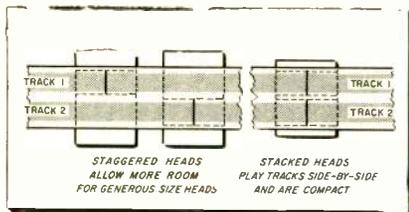
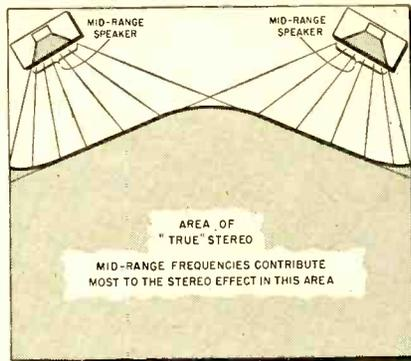

Fig. 1—Staggered and stacked heads as used in tape recorders. Some machines have both.
Fig. 2—Separate speaker systems are more desirable particularly for larger listening areas.
The signal A+B is fine for monophonic listening, even A-B may convey enough information to the inexperienced ear, but A+B and A-B as such do not as yet have any significance so far as stereo is concerned. Something else must happen before the right and left sense is restored. This is readily accomplished at the receiver end as shown in Fig. 1. By adding a portion of each signal to each stereo channel amplifier, but once again changing the phase of one signal in one channel, the righthand speaker will
Stereo presented a problem of how to arrange the two heads. In the early days materials and production techniques necessitated a fairly bulky head to get the best quality which led to the use of staggered heads. Because of tape stretch and other mechanical tolerances, it was obviously more logical to have both tracks run side-by-side, in time as well as place to avoid phasing problems. So another group preferred stacked heads. Both types are shown in Fig. 1. At present the stacked group seems to have had the best foresight. Techniques for making heads has improved to the point where just as good quality can be
To keep pace with the competition from the new stereo discs, to make the use of tape more economical, and to further the art, the tape engineers have been working on quarter track tape for stereo. Before, there were two tracks on a $\frac{1}{4}$ " tape, which could be used separately for monophonic channels or together for stereo. The four channel tape shown in Fig. 2 will accommodate two separate two-channel stereo programs
Fig. 2—Progressive development from the original full-track tape to half-track, and now to the new quarter-track, which can be played stereophonically in both directions.
Fig. 1—Two speakers in one enclosure, angled away from each other can create pleasing stereo effects even when the listener is not seated in the true stereo area.
• A good general rule to use as a starting point is that the smaller living room, up to 12 feet by 14 feet, can be served by two enclosures or a single enclosure type of stereophonic speaker system, with the speakers sufficiently separated and pointing outwards as shown in Fig. 1. For larger rooms it is better to arrange two separate enclosures and their speakers along the shorter wall of the room as shown in Fig. 2. While corner placement is desirable, it isn't absolutely necessary. The shaded portion indicates the so called true stereo listening area. The direction or angle of the speakers is also important. Generally, the high frequencies should be directed down the sides of the room, and perhaps a bit toward its adjacent side wall. This helps to get the higher frequencies into portions of the room where the true stereo effect is not realized, but will nevertheless help to create a pleasing stereo illusion. Angling the woofers so that it covers the central listening area offers the
were present, the stereo effect would only be achieved in the shaded areas in Figs. 1 & 2. But, still other effects contribute to the desired stereo illusion, much more than many people seem to realize. The distribution of the high frequencies, those above 1,500 cycles, can help considerably.
This can be demonstrated by the arrangement shown in Fig. 1. The stereo effect in this case is obtained by beaming the high frequencies from each channel directly at the adjacent side wall. Thus one group of high frequencies is coming toward the listener seated off to one side, while the other group of high frequencies is directed away. This give an overall effect, at positions off-center, very similar to sitting at one side of a concert hall. By this means a very real sense of perspective is retained even though the true stereo effect which is dependent principally upon the mid-range frequencies is lost when not in the center of the room. The general effect of a speaker system of this type in a smaller room, with a reasonable degree of furnishing, can be quite pleasing.